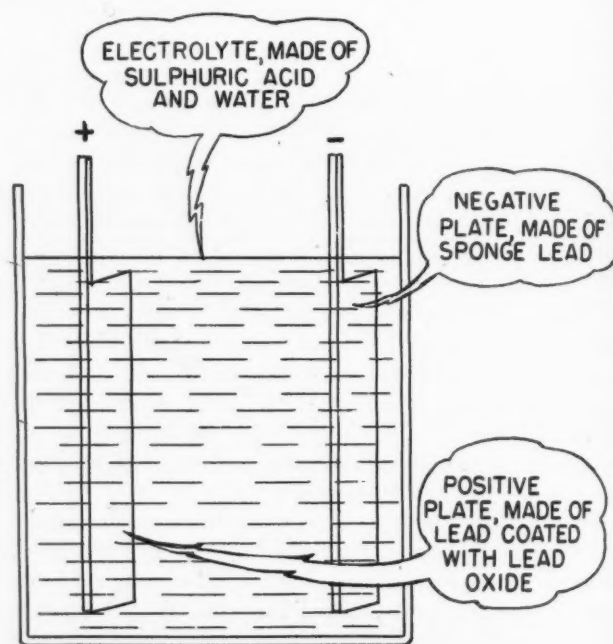

Fig. 1—Simple lead-acid cell
The chemistry of a lead-acid battery is pretty complex. We'll not get into that, but just take a quick look at what happens when a battery is charged and discharged. The parts we will consider are sketched in Fig. 1. They are: (1) the positive plate, which is a lead grid filled with lead peroxide paste; (2) the negative plate—also a lead framework but filled with porous or "sponge" lead; and (3) a solution of sulphuric acid and water, called the electrolyte. Let's start with a fully charged battery.
Batteries as built today differ greatly from the simple cell of Fig. 1. Several positive and negative plates are nested as shown in Fig. 3. Separators, made of wood, rubber, or any suitable porous material, are used to keep the plates from touching. In this way a lot of battery can be packed into a single cell.